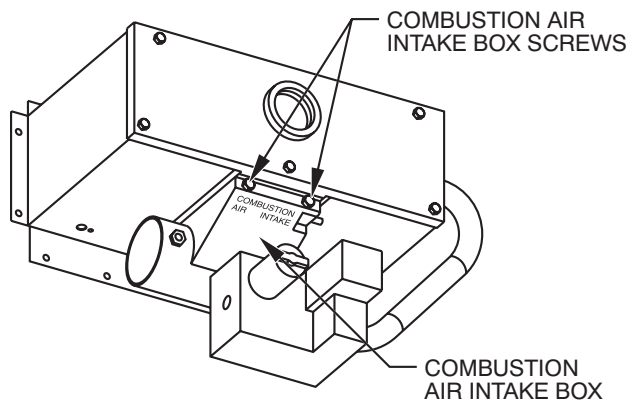

Fig. 53 - Removing Combustion Air Intake Box
- a. Remove front two screws on combustion air intake box. (See Fig. 53.)
- h. Reinstall combustion air intake box and replace two screws to ensure diverter plate is properly installed. (see Fig. 53.)